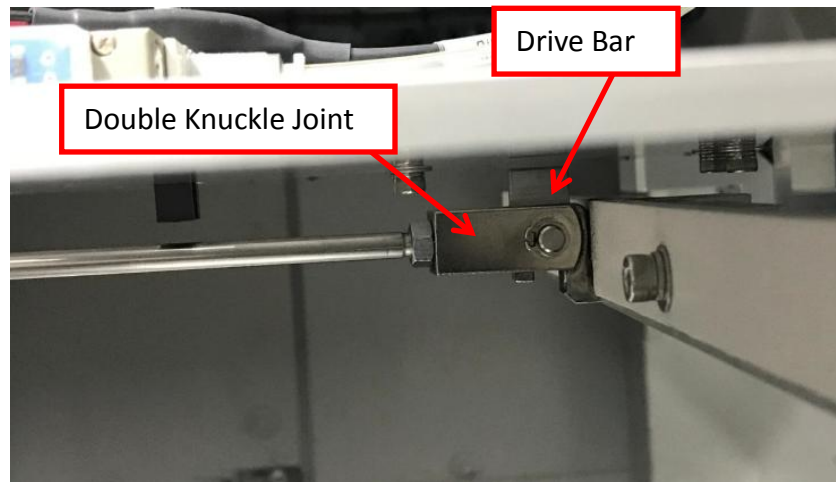

Figure 13 Double Knuckle Joint & Drive Bar
4. Gently slot Double Knuckle Joint into Drive Bar's hook as shown in Figure 13